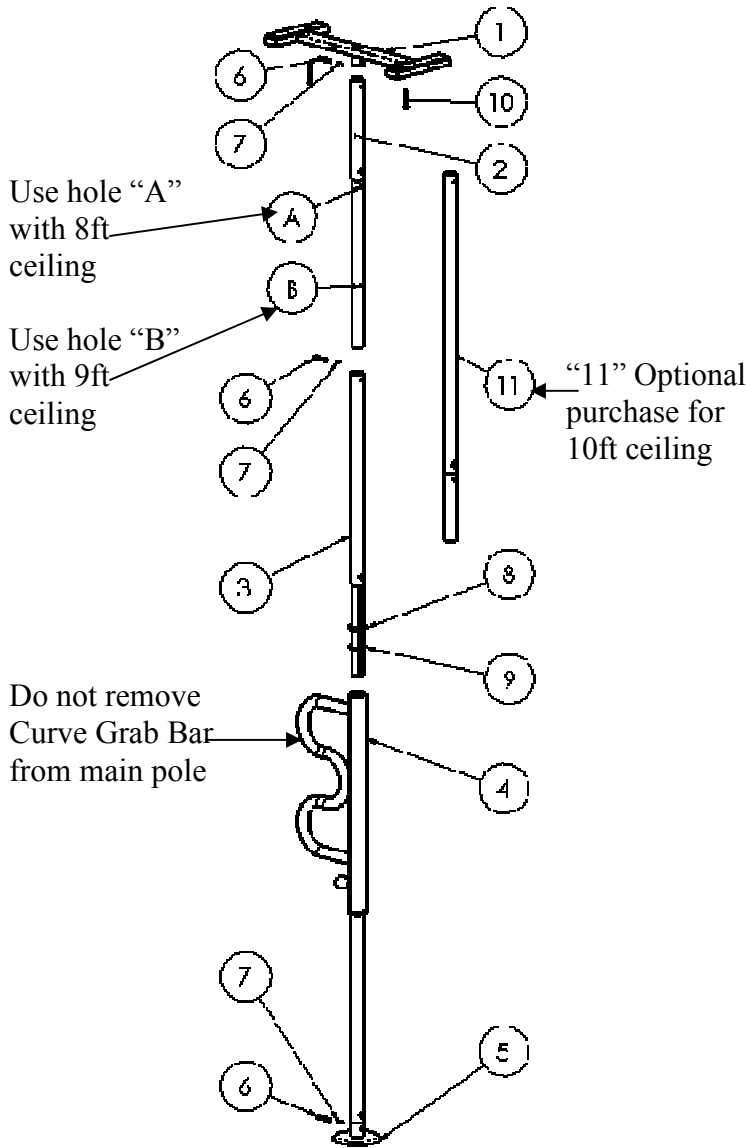
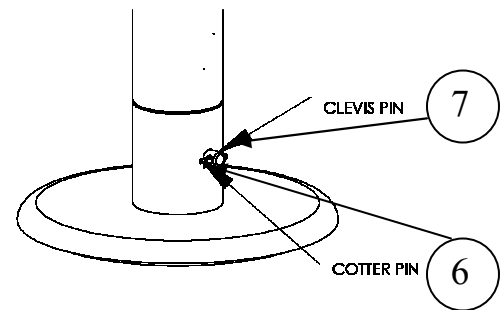

FIGURE 1
FIGURE 3
1. Take all parts out of the box and lay them on a flat surface as shown in Figure 1. As noted above, ITEM-11 is NOT included but represents an extension for a 10 foot ceiling.
4. The Extension Tube (ITEM-2) has 2 sets of holes marked "A" and "B" in Figure 1. The set of holes marked "A" are for an 8 foot ceiling. The set of holes marked "B" are for a 9 foot ceiling.
6. Attach ITEM-5 (Base) to ITEM-4 (Main Pole & Curve Grab Bar), as shown in Figure 1, by aligning the holes in ITEM-4 and ITEM-5 and inserting the Clevis Pin and Cotter Pin as previously done in Step 2, and as shown in Figure 3.
NOTE: Before Step #7 make sure the Adjustment Nut (ITEM-8) and the Washer (ITEM-9) are in place on threaded part of bar as shown in Figure 1. The Adjustment Nut (ITEM-8) should be above the Washer (ITEM-9).